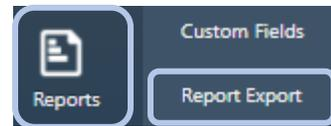

Figure 47: Report Export menu item
1. Click the **Reports** icon in the toolbar, and click **Report Export** (Figure 47).